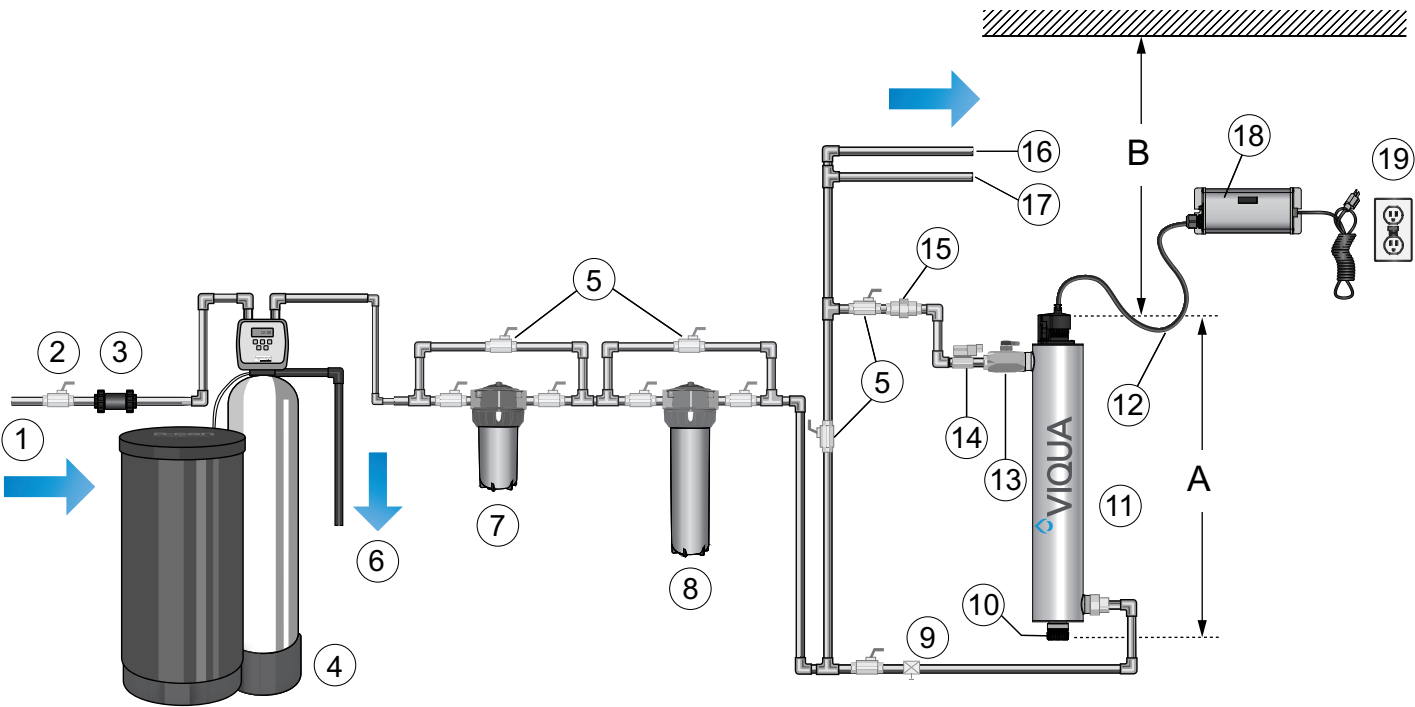
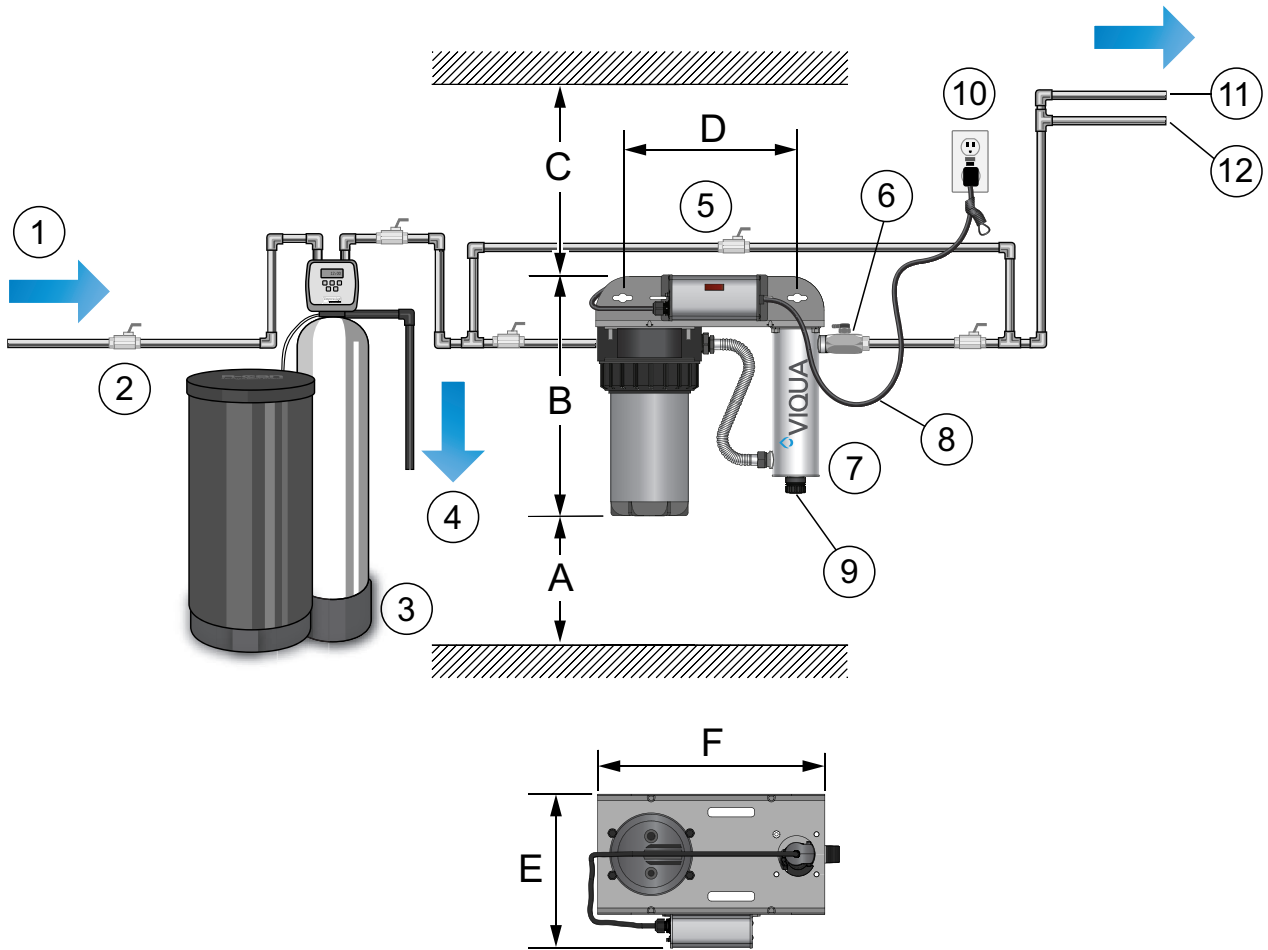
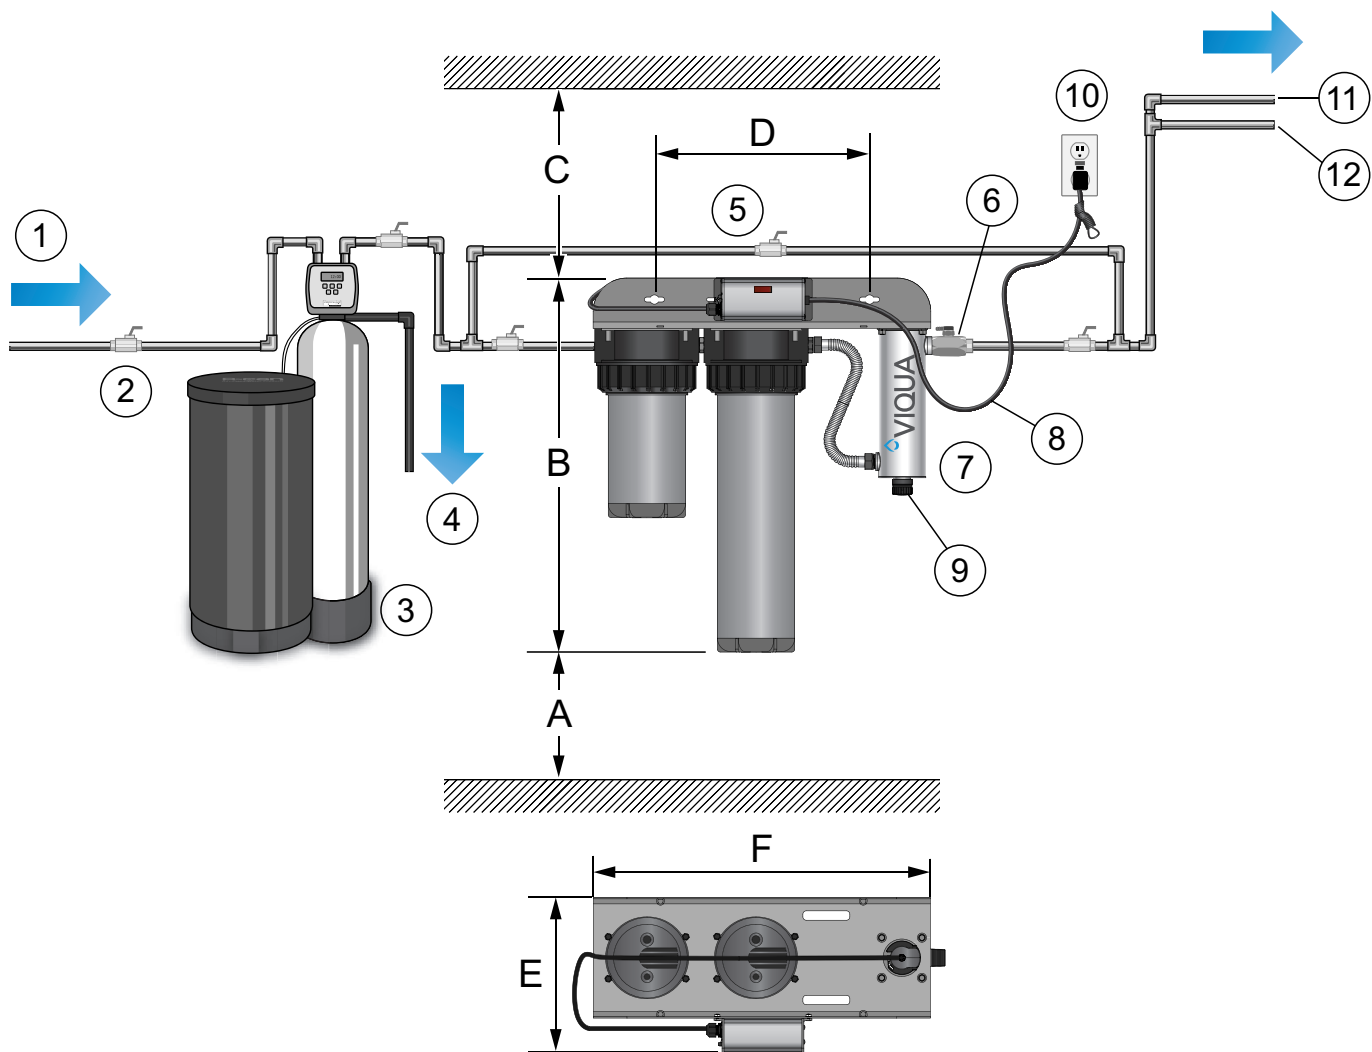

Figure 5 Typical Installation of VH / VP / VH-V / VH-2AW UV System
Figure 6 Typical Installation of VH-F UV System (Single Filter Housing Configuration)
Figure 7 Typical Installation of VH-F UV System (Dual Filter Housing Configuration)
- Ensure adequate clearance above/beside the UV Chamber to allow for removal of the UV Lamp and Lamp Sleeve. Refer to Figure 5, Figure 6, and Figure 7.
- Drip loops in all cordage connected to the Controller is highly recommended. Refer to Figure 5, Figure 6, and Figure 7.
- A flow restrictor (Figure 5, item 15) must be installed on the outlet side of the UV System.
- A backflow device (Figure 5, item 3) (not included) must be installed upstream of the UV System, filters and other upstream processes.
- A by-pass assembly (Figure 5, Figure 6, and Figure 7, item 5) is recommended for system off-line maintenance.
- Figure 5 (VH / VP / VH-V / VH-2AW Systems) and Figure 6, Figure 7 (VH-F Systems) show a typical UV System and related components installation.
3. If provided, install the optional Temperature Management Valve on the outlet port side of the UV Chamber. Refer to Figure 5 (item 13) for VH / VP / VH-V / VH-2AW UV Systems and Figure 6, Figure 7 (item 6) for VH-F Systems.
6. Make sure to allow for a “drip-loop” as shown in Figure 5 (item 12), Figure 6 (item 8), and Figure 7 (item 8) on the power cord to prevent any water from potentially entering the Controller.